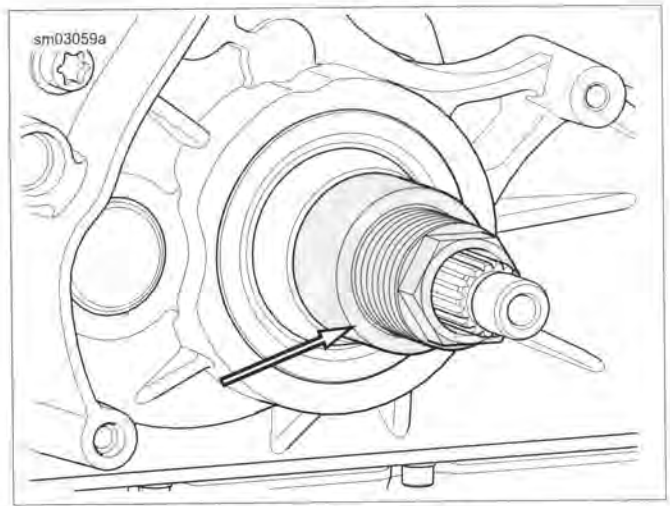

Figure 6-50. Install Adapter
- See Figure 6-50. Install ADAPTER (Part No. HD-47856-3) onto end of main drive gear until it contacts main drive gear.